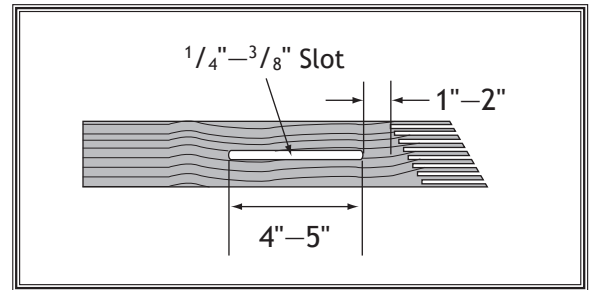

Figure 73. Slot routed in featherboard.
4. Rout a $\frac{1}{4}$ "- $\frac{3}{8}$ " wide slot 4"-5" long in the workpiece and 1"-2" from the short end of the featherboard (see **Figure 73**).